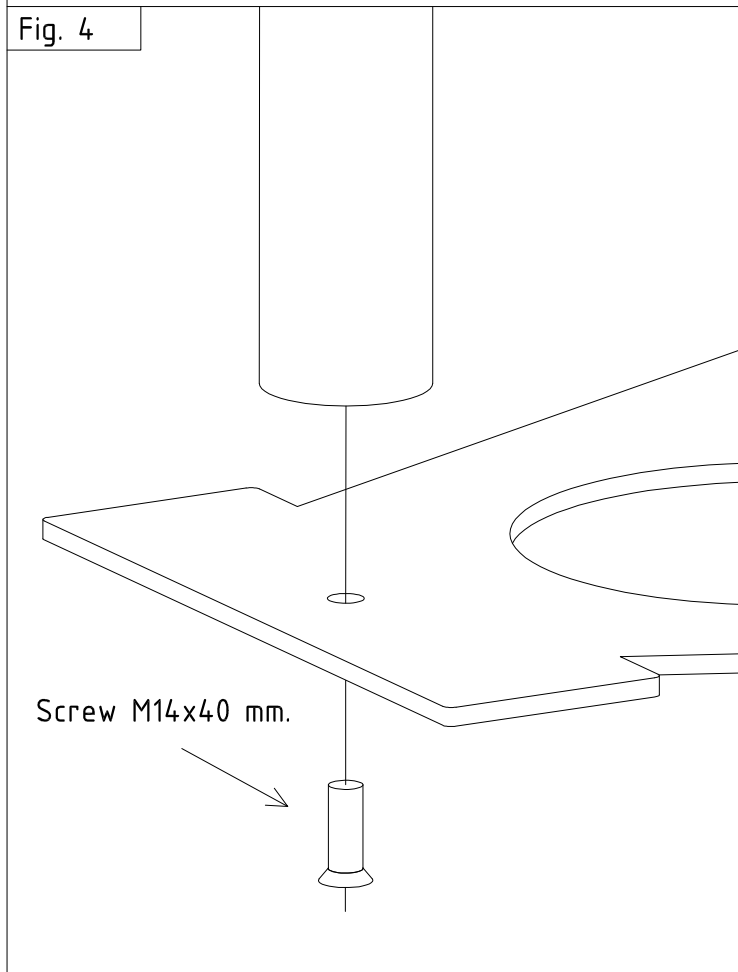

Fig. 5
- Fix the cap on the post (Fig. 5)